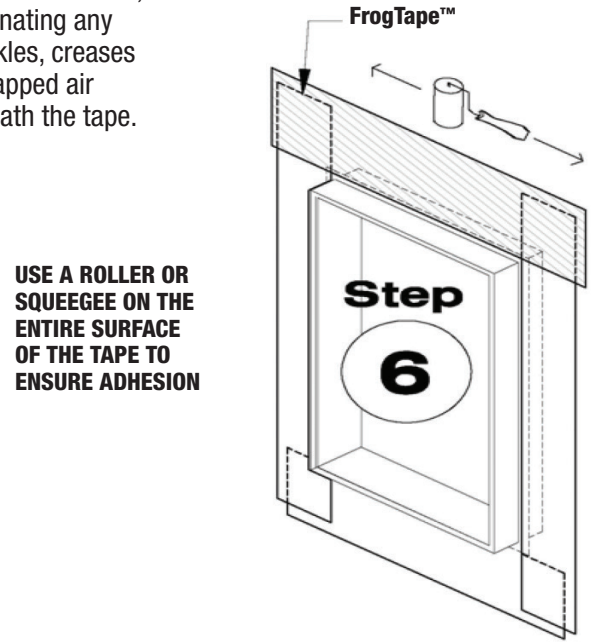

Figure 7 Apply head flashing.
Step 6. Precut FrogTape Pro Grade Flashing Tape for the window header to extend a minimum of 6 in beyond the jambs of the prepared rough opening. Peel off release liner and adhere FrogTape Pro Grade Flashing Tape over window fin and wall surface. Install supplemental head flashing (where applicable) with a strip of FrogTape Pro Grade Flashing Tape over the top leg (see Figure 7). Use a roller to apply sufficient pressure along the entire surface of the tape to ensure adhesion and a continuous seal, eliminating any wrinkles, creases or trapped air beneath the tape.